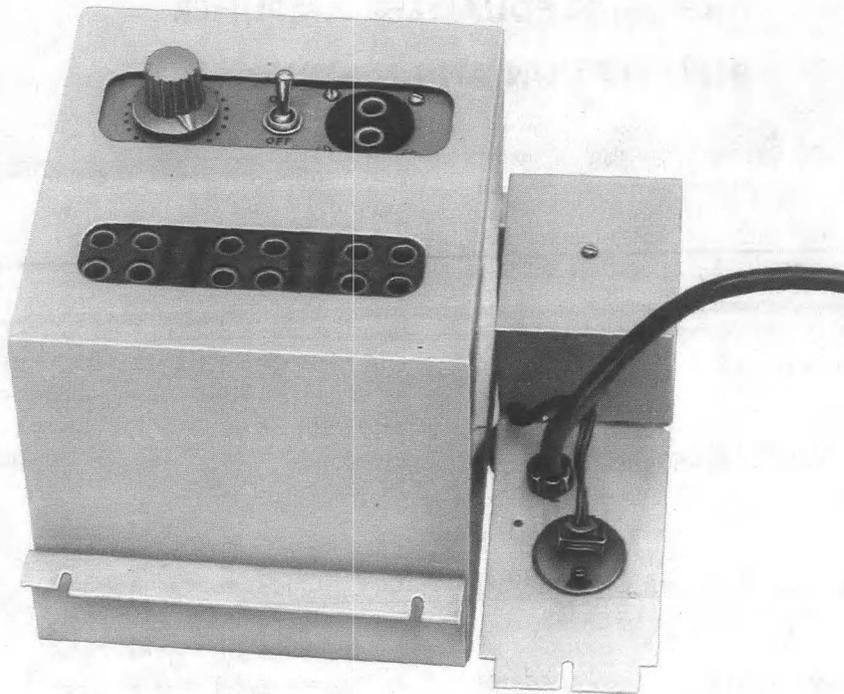

Fig. 1—KS-20159 Equalizer-Amplifier With Cover and L6 Power Supply Assembly
2.01 The KS-20159 L1 equalizer-amplifier has been Manufacture Discontinued and replaced by the KS-20159 L2 equalizer-amplifier. Figure 1 shows the equalizer-amplifier and KS-20159 L6 power supply assembly, which can be mounted on either 19- or 23-inch racks. Two KS-20159 equalizer-amplifiers can be mounted on a 19-inch rack with or without two KS-20159 L6 power supply assemblies.